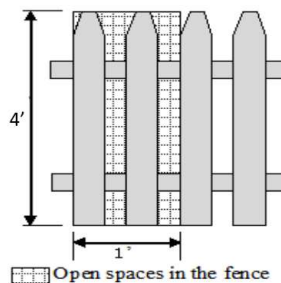

Figure 1, Open Fence Example: For a 4' tall open fence, the open spaces in the fence shall include at least 30% or 1.2 sq. feet per one linear foot in length.
- A fence, including gates, which has, for each one (1) foot wide segment extending over the entire length and height of the fence, at least thirty percent (30%) of the surface area in open spaces which afford direct views through the fence. (See Figure 1)
- A 4' tall open fence (see Figure 1 above) can be constructed on any property line.